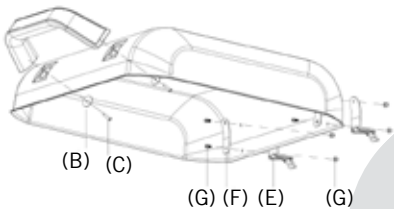

Fig. 10
11. Remove the two screws ST 4 x 14 (C) and the washers from the handle (Fig. 10). Place a washer on the inside of the housing over the drill holes for the handle assembly, insert the two screws and tighten them. Next, use two screws M 4 x 8 (G) and push them through the hinged mounting plates. Hold the mounting plate in place on the inside of the wind and splash guard and guide the screw through the respective
opening and the hinge, as shown in Fig. 10. Secure the screws with the corresponding cap nuts.